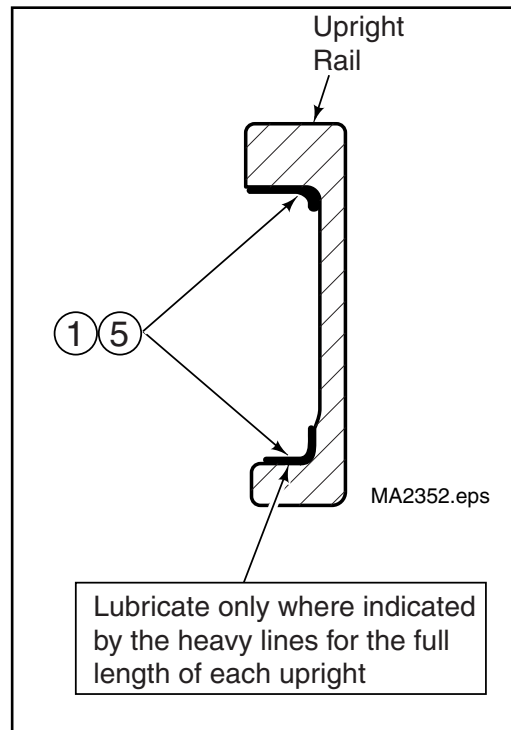

Figure 52. Rail Lubrication
1. Lubricate the outer upright rails with chassis lube or Kendall SR-12X. See Figure 52 Rail Lubrication.
5. Lubricate the intermediate upright rails with chassis lube or Kendall SR-12X. See Figure 52.